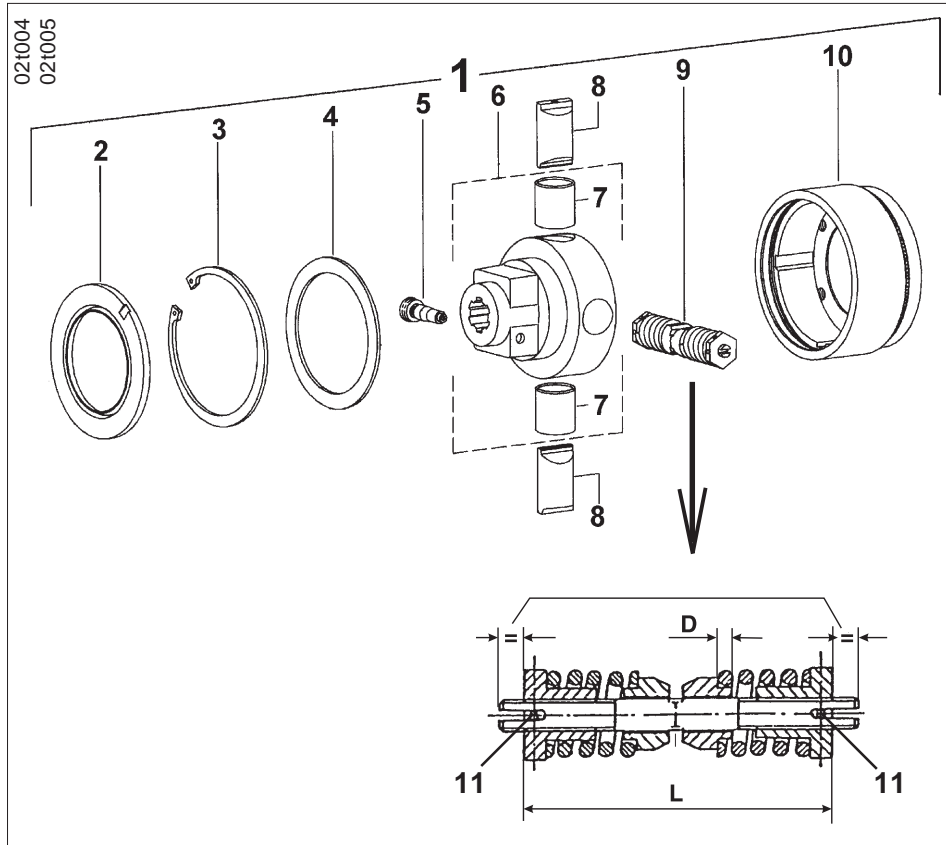

Fig. 19.18
Should the tines come to a standstill due to the cam clutch being deactivated (Fig. 19.18/1) stop and reduce the pto shaft speed of the tractor to approx. 300 R.P.M. until the cam clutch engages audibly. Should the tines do not begin to rotate, disengage the pto shaft and remove the obstacle (only with stopped engine and removed ignition key). The cam wheel clutch is then immediately ready for use.
Attach the pto shaft half with the overload clutch to the gearbox input shaft of the implement and secure by using a cone bolt (Fig. 19.18/5) (CC-locking). The torque of the cone bolt (Fig. 19.18/5) is 80 Nm (please refer to the hints of the pro shaft manufacturer). Regularly check the cone bolt for firm seating.
be adjusted higher or reduced. For this pull the overload clutch off the gearbox input shaft. Remove seal ring (Fig. 19.18/2), securing ring (Fig. 19.18/3), coupling hub (Fig. 19.18/6) and spring assembly (Fig. 19.18/9). Measure the spring wire diameter „D“ (Fig. 19/18) and take from the table (Fig. 19/18a) the figure which corresponds to a change of the spring assembly length of 1 mm.
Remove the expansion pins (Fig. 19.18/11) and
- of the setting measure „L“ on both sides of the spring assembly (Fig. 19.18/9).
2. **Always set the same spacings ( =, see Fig. 19.18)!**
After any adjustment the expansion pins (Fig. 19.18/11) have to be reinserted in the pass holes of the hex. nuts.